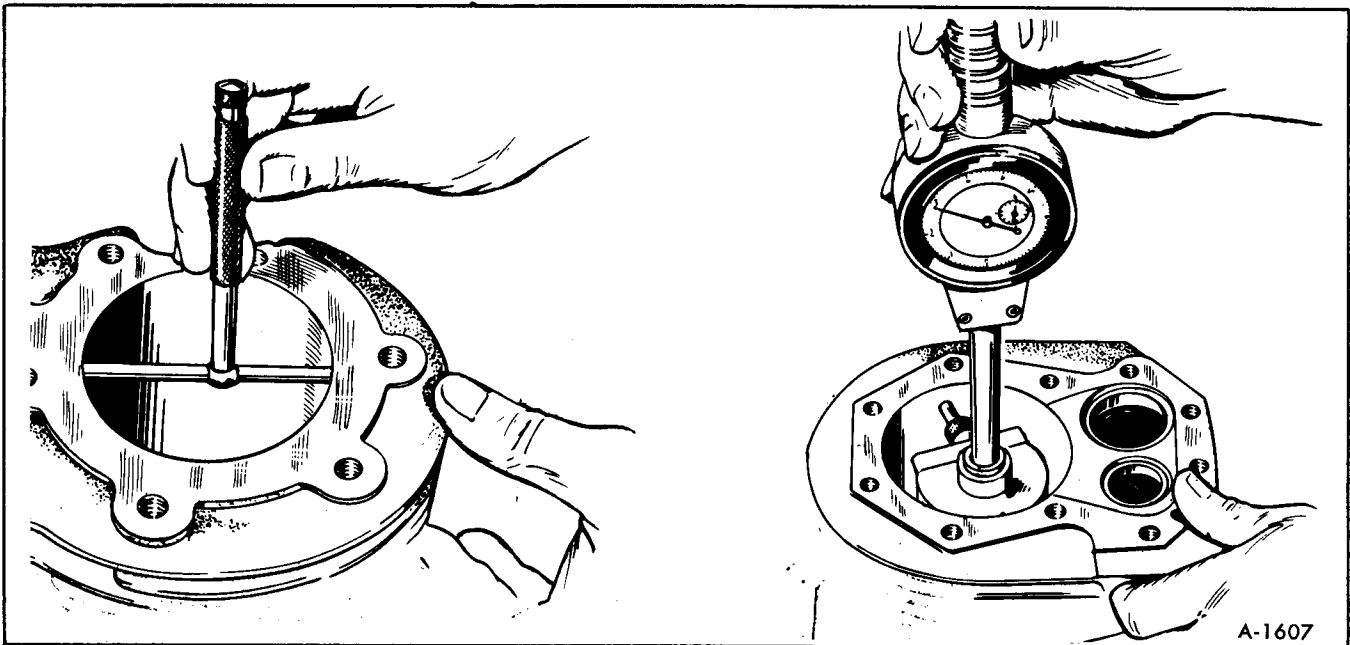

Figure 18—Methods of Measuring The Diameter of a Cylinder
3. Check the cylinder bore for taper, out of round and wear, with a cylinder bore gauge, telescope gauge or inside micrometer (figure 18). These measurements should be taken at four places — the top and bottom of piston ring travel.